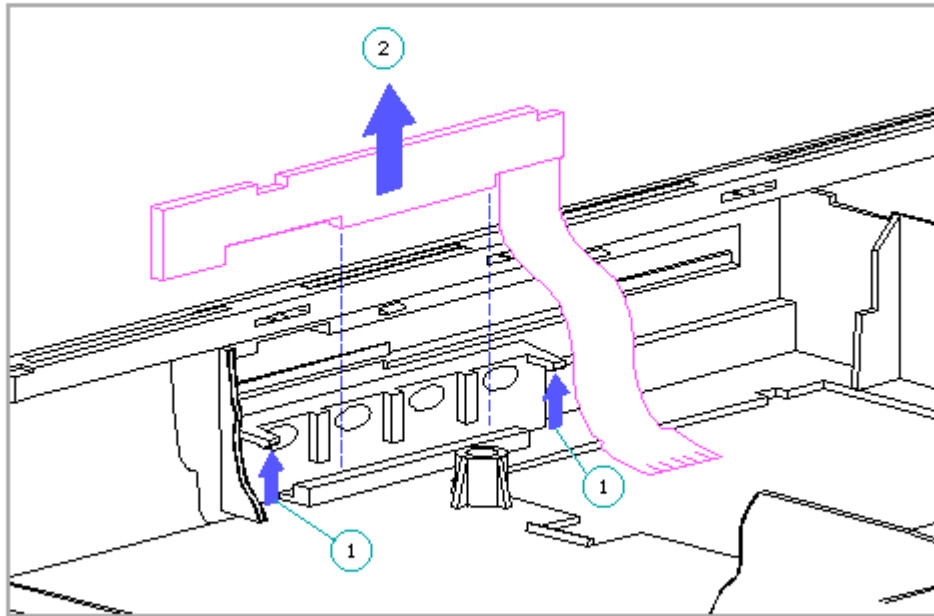

Figure 4-50. Removing the LED Cable Assembly
2. Slightly flex the retaining snaps of the LED cable assembly bracket [1] up one at a time, while removing the LED cable assembly [2] (Figure 4-50).